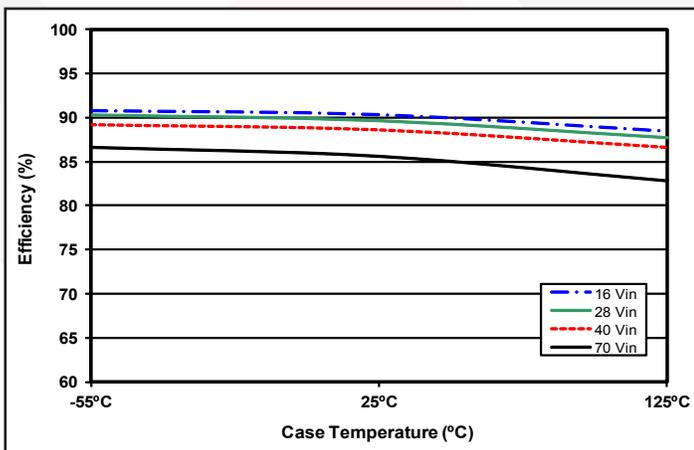

Figure 5: Efficiency at 60% load (3A load on +12V and 3A load on -12V) versus case temperature for Vin = 16V, 28V, and 70V.
2. Derate output power for continuous operation per Figure 5. 135°C is above specified operating range.